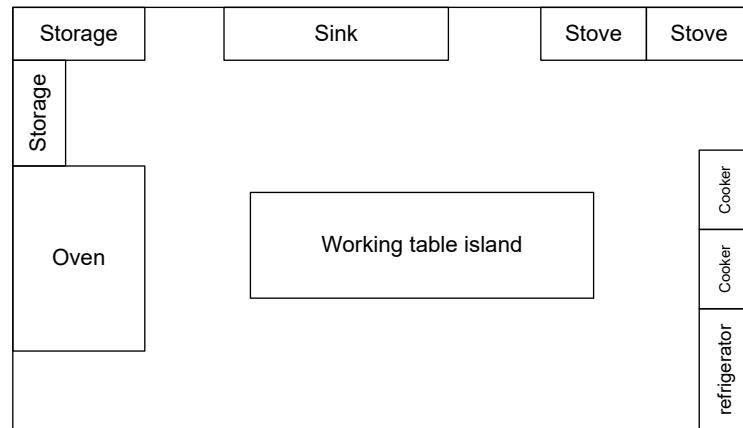

Figure Q3 [a]
3. (a) Siew Mei ran a catering service in her kitchen during the Pandemic lockdown. Every day, 300 lunches (each includes one of the five standard dishes) were cooked and delivered based on different customer orders placed a day ago. Figure Q3[a] depicts the arrangement of the kitchen. She now intends to grow her business to meet the increasing demand for 700 lunches across 20 dishes.